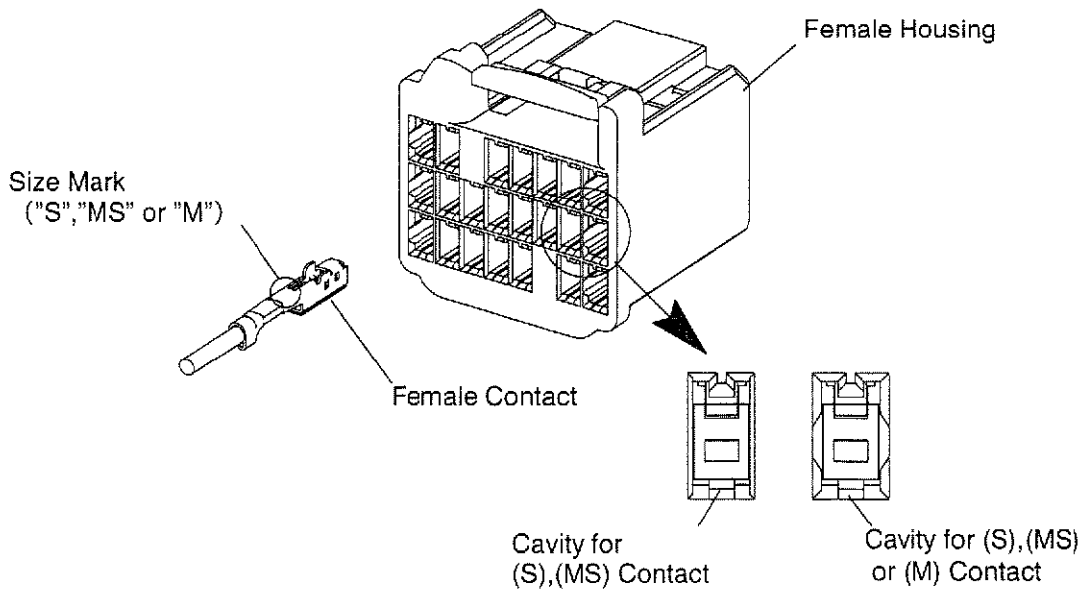

Fig.9
(2) Confirm the size mark on the contact (S ,MSor M ). Fig.9. The cavity size (S,MS or M) of the housing can be identified by the shape of cavities. Fig.9. See the customer drawings to know the construction of cavities.